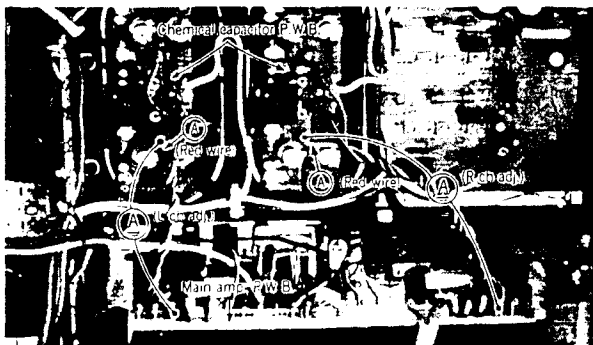

Fig. 8
Adjust the idle current after removing the cover and bottom plate, applying no signal and leaving the speaker selector switch OFF. Adjust Lch, disconnecting lead wire (A) (red) shown in Fig. 8 from the terminal on the main amplifier PWB, and connecting the positive ⊕